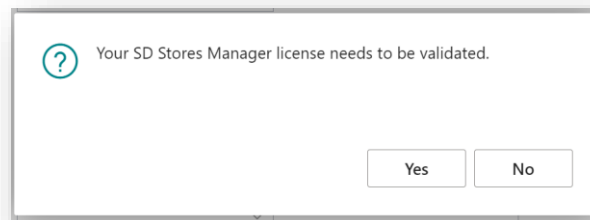

Figure 4-11
2. When the **SD Stores Manager Setup** card opens, you will be prompted that “Your SD Stores Manager license needs to be validated.” Choose **Yes** (Figure 4-11).